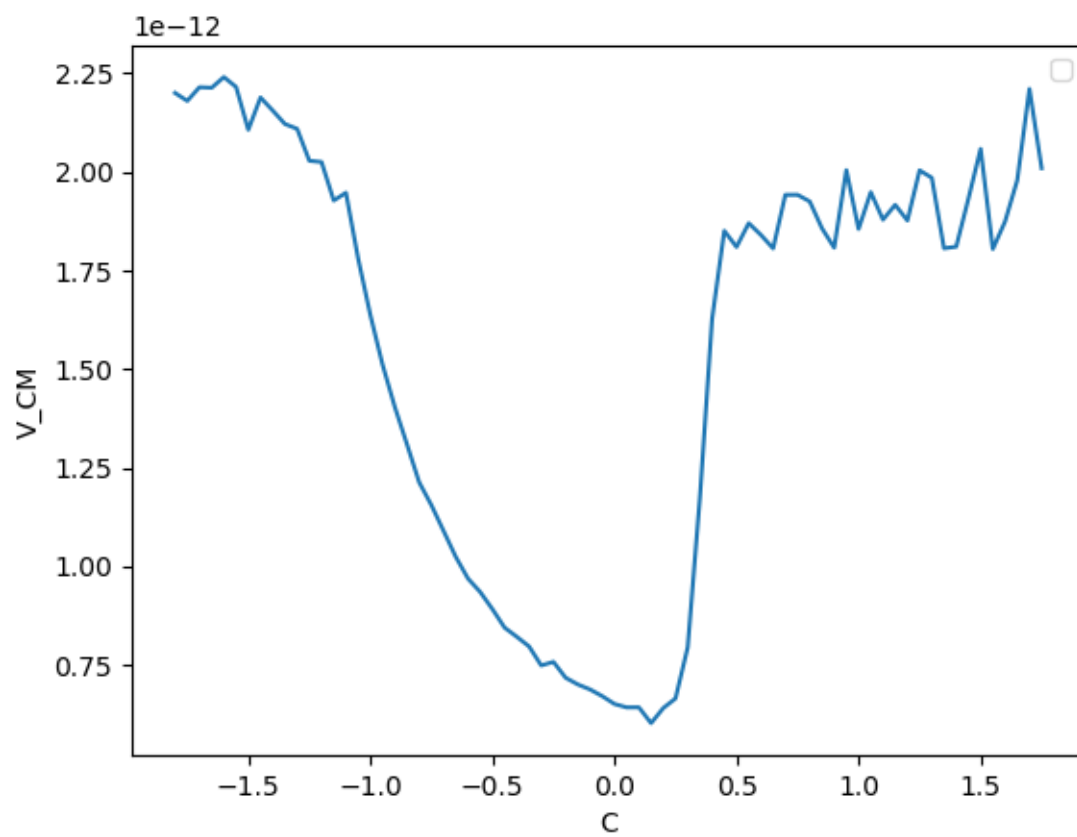

Figure 5: Long Channel, $f=10\text{GHz}$
- Please refer Figure 5 for the plot.